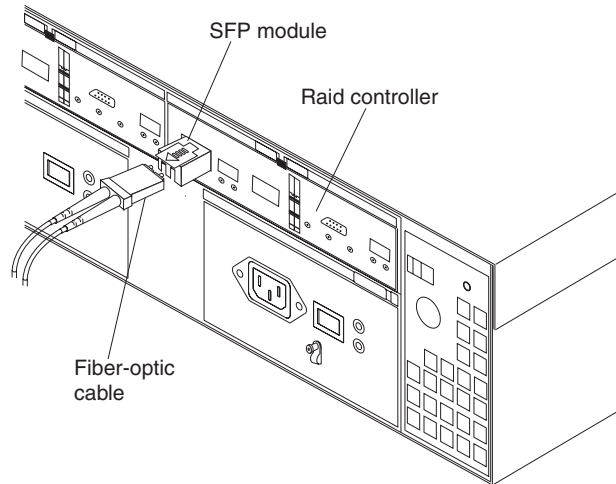

Figure 24. Installing an SFP module into the host port
4. Insert the SFP module into the host port until it clicks into place. See Figure 24 on page 34.